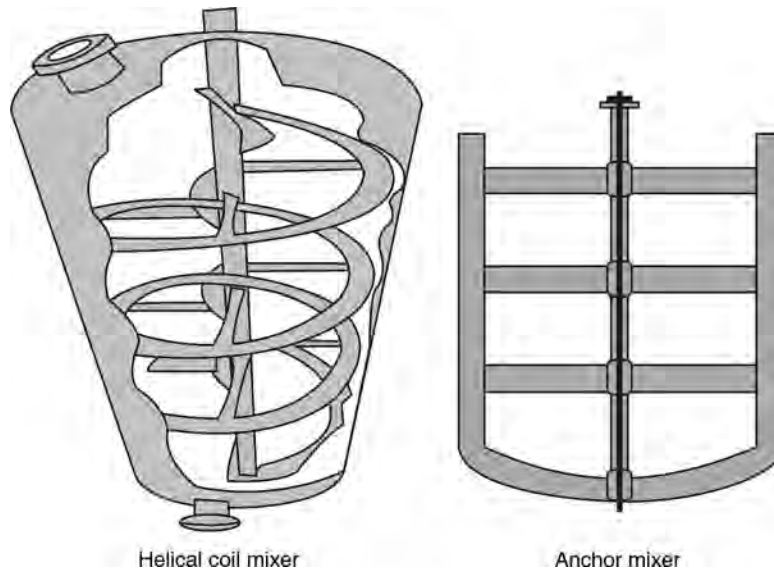

FIGURE 6.14 Helical coil and anchor mixers.
- Helical coil and anchor impellers (Figure 6.14).